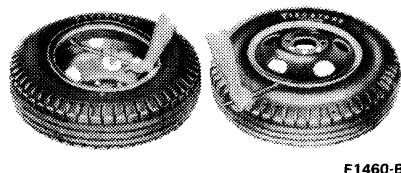

FIG. 1 Removing Rim and Removing Tire—Two-Piece Rim
1. First, remove valve core and completely deflate the tire. Then, place the wheel (ring side up) on the floor. Insert the hook end of the rim tool between the ring flange and the tire and press downward on bead. Continuing around the ring, pry the tire off the tapered seat of the ring (Fig. 1).